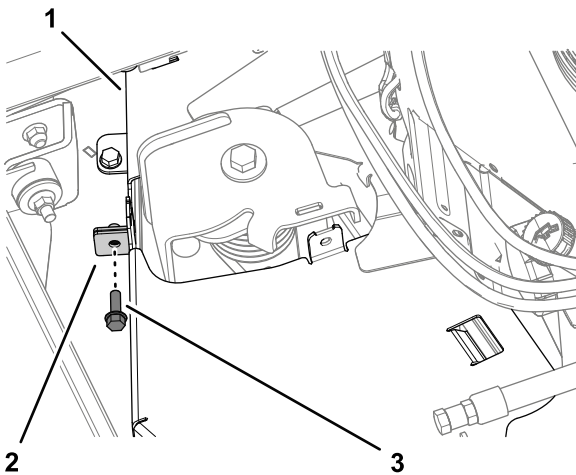

Figure 35
2. Remove the bolt that secure the belt cover flanges as shown in Figure 35.